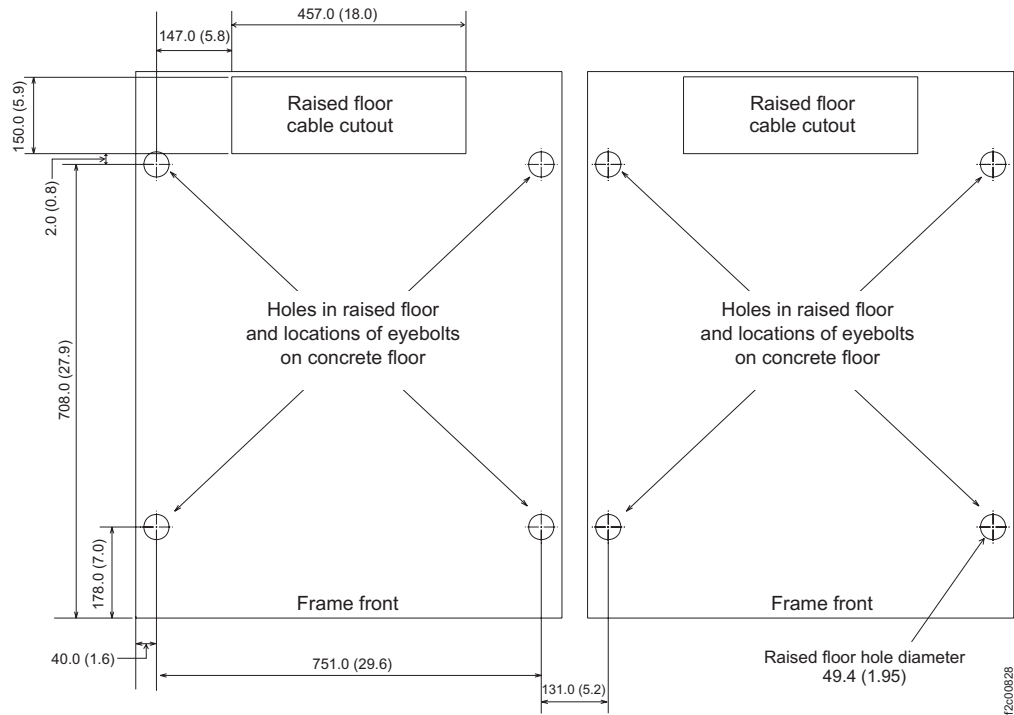

Figure 98. Locations for cable cutouts and rubber bushing holes for raised floor and eyebolt installation on concrete floor
3. Inspect the floor where the storage facility racks are to be installed. Refer to Figure 98 on page 120 and ensure the following are already present for each rack: